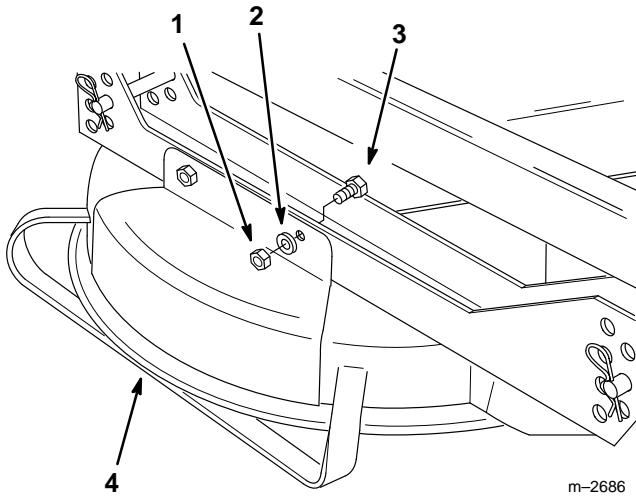

Figure 28
3. Remove the two locknuts, flat washers and hex head bolts holding the discharge chute cover to the deck and remove the cover from the deck (Fig. 28).